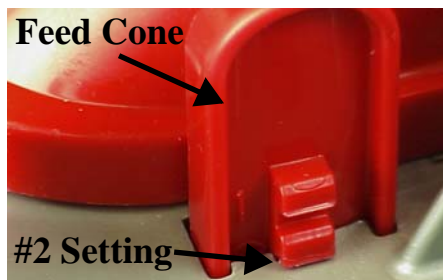

Figure 6. Feed Cone Level #2 Setting
4. Verify feed cone level setting is at the appropriate level. **Chore-Time recommends #2 setting on all feeders to maintain a proper feed charge, see Figure 6.**